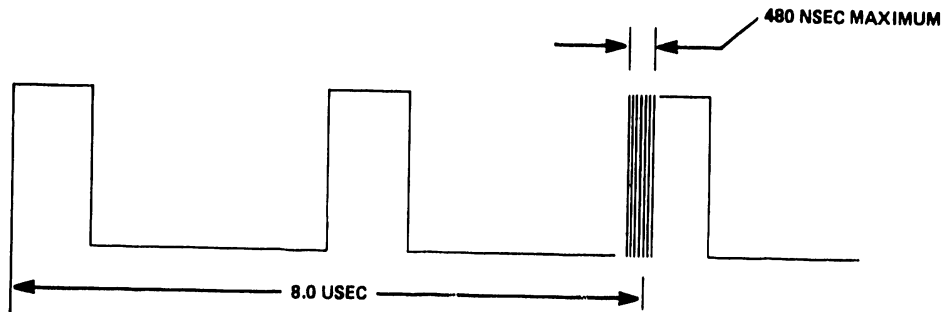

Figure 2-3
2.1.2.4 Observe the following pattern (see Figure 2-3).
- 2.1.2.5 Measure the amount of jitter present on the leading edge of the third pulse (see Figure 2-3). The leading edge of the third pulse should start 8 usec \pm 240 nsec from the trigger pulse. Jitter on the third pulse of greater than \pm 240 nsec (480 nsec edge-to-edge) indicates excessive ISV.